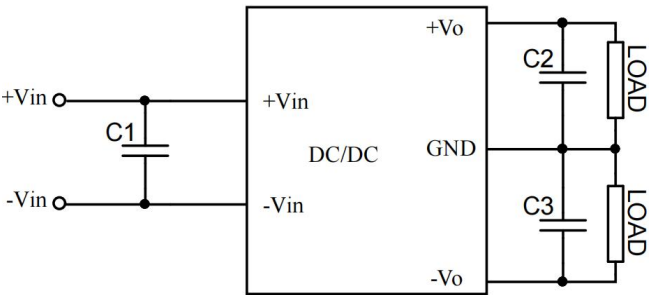

Figure 2: Recommended Test Circuit
1. DC/DC Recommended Test Circuit. All products in this series are tested according to the recommended test circuit shown in (Figure 2) before leaving the factory.